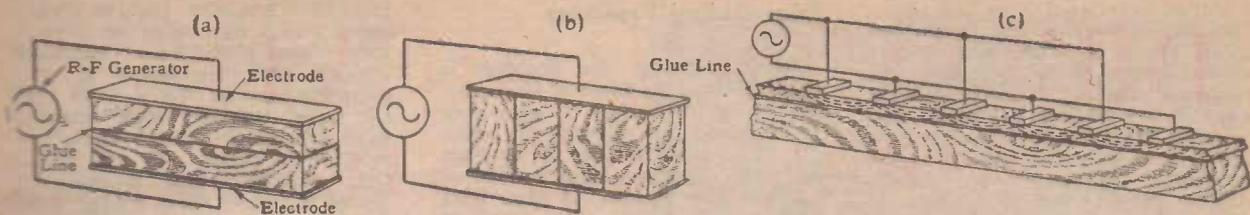

Fig. 1. Arrangement of electrodes for (a) through-type r-f heating, (b) glue-line r-f heating, and (c) stray-field, r-f heating.
In *through-heating*, illustrated in Fig. 1 (a), the glue lines are parallel to the electrodes and the dielectric mass heats uniformly. This method, most widely used, is applied to mould laminated plywood sections, to form plywood, to glue some types of panels and doors, to glue special assemblies, and to remove moisture from wood.
In *edge-gluing*, Fig. 1 (b), the glue lines are perpendicular to the electrodes. The large difference in
**Stray-field heating**, Fig. 1 (c) utilizes the fringing or stray field between adjacent electrodes and is used for heating inaccessible joints where edge-gluing is not possible and where through-heating is not economical. It is used for patching of damaged or knot-hole sections in plywood, some assembly work, and for laminating outsides of thick assemblies.